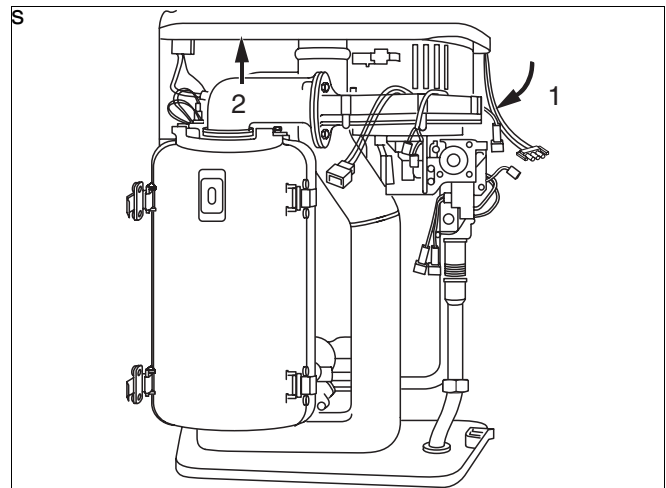

Fig. 72 Remove the gas-air unit
- Swivel the gas-air unit forwards (fig. 72, item 1).
- Pull the gas-air unit up and out of the bayonet connector (fig. 72, item 2) and remove via the front of the unit.